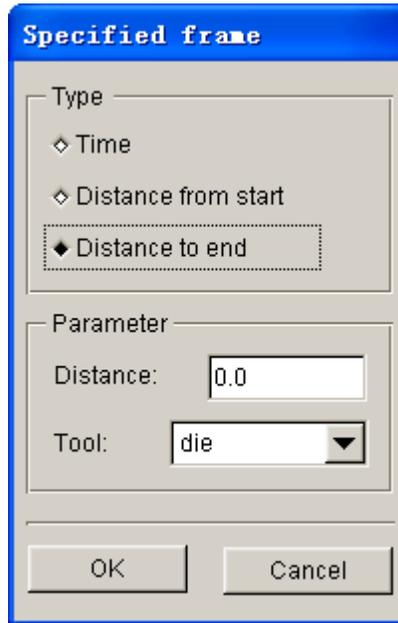

Figure 8.2.89 Define Specified Frame by Distance to Termination
**DISTANCE TO END:** Add an output frame by defining the distance to the stage termination time. The interface is illustrated in Figure 8.2.89. The user may select a reference tool in TOOL pull-down list, following by typing a value in the DISTANCE input data field. This value is the distance of the tool from termination time.